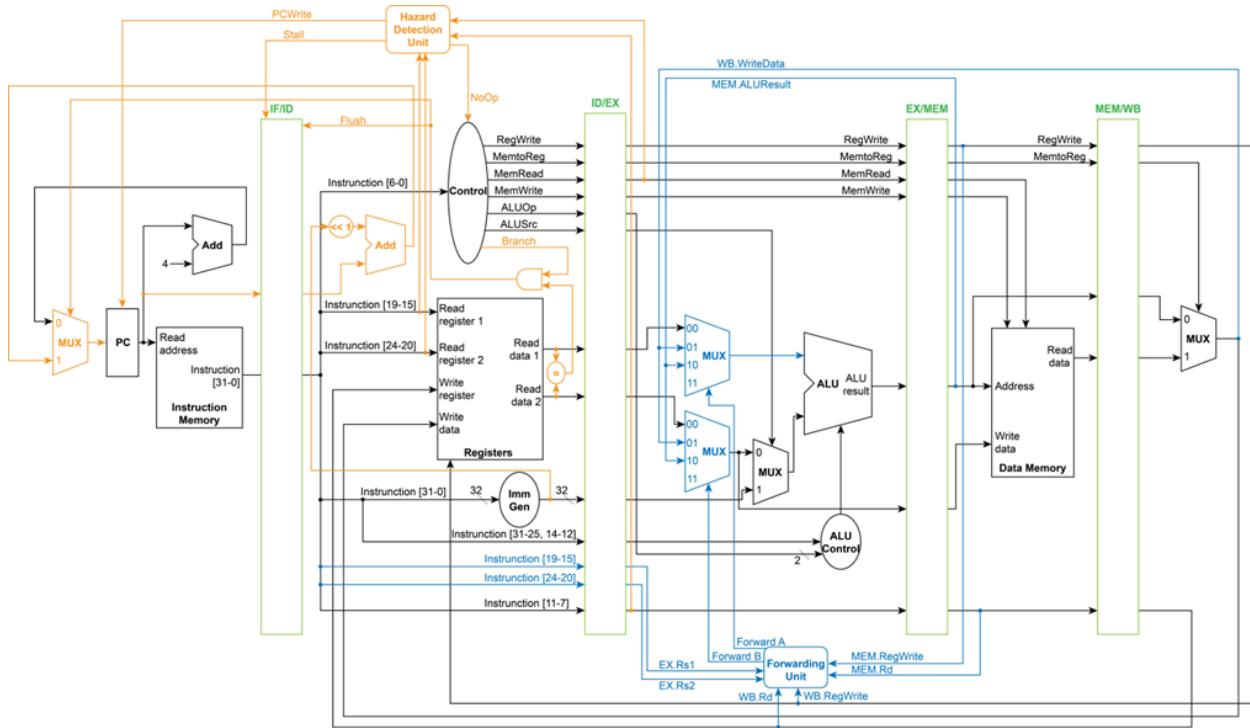

Figure 1 Final Datapath after Adding Forwarding and Hazard Detection Unit
- Figure 1 describes the CPU data path.
- **You may implement** the modules listed in Section 1.6, and integrate them in **CPU.v**. It will be easier if you follow Figure 1